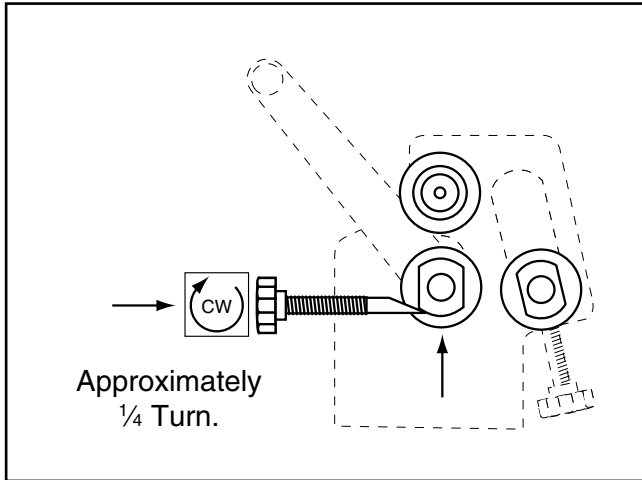

Figure 12. Raising bottom roller $\frac{1}{4}$ turn.
- Remove the workpiece from between the rollers, then raise the bottom roller slightly by rotating each thickness adjustment knob approximately $\frac{1}{4}$ turn. Also, make sure the rear roller is lowered completely and will not interfere with the workpiece as it exits the machine (see **Figure 12**).